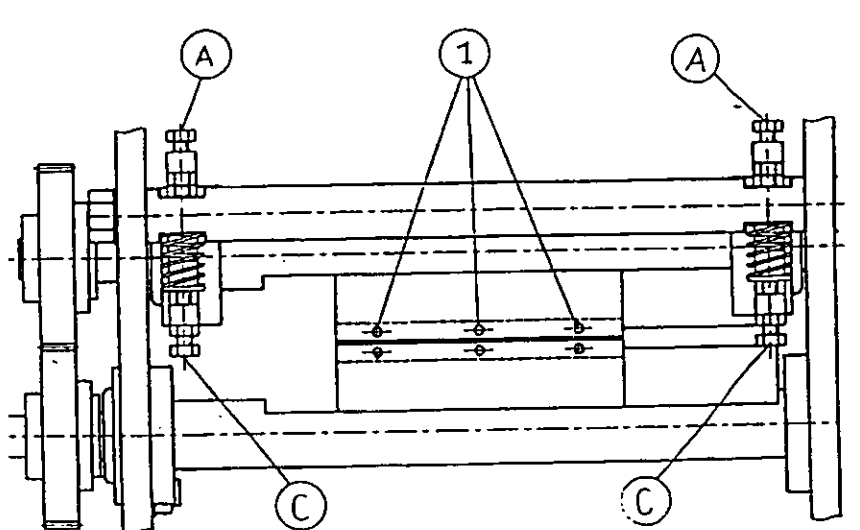

Fig. 25
1. The upper knife is removed by loosening the 3 fixing screws, Fig. 25. Pos. 1.
3. In order to obtain correct and complete end sealing it is necessary that the two sealing jaws are completely parallel. This can be adjusted by means of the two adjusting bolts, Fig. 25, Pos. A. Adjustment of the pressure between the two jaws in the end sealing is done by means of the two adjusting bolts shown on Fig. 25, Pos. C. The ideal pressure is individual for each type of wrapping material.